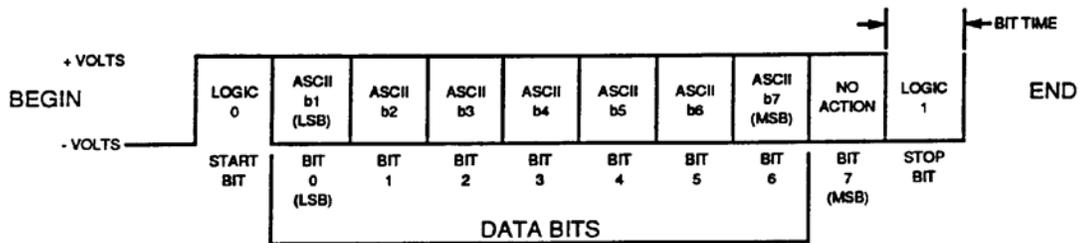

Figure 7-4. RS-232C ASCII Sequence
**7.3.1.7. RS-232C Transmission Format.** The RS-232-C interface sends/receives ASCII characters in sequence as shown in Figure 7-4 and Table 7-1. Ensure power is off, then see Chapter 2, Table 2-3 for baud rate selection; see Chapter 4, Table 4-2 for 8-bit status byte format. The RS-232-C transmission format control codes are the same as those listed in paragraph 7-2.1 and 7-2.2.